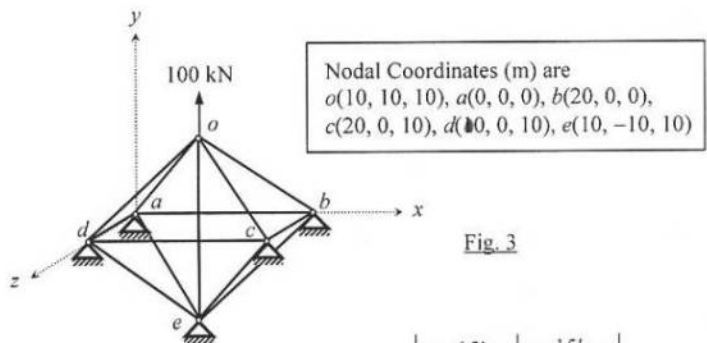

Fig. 3
3. For the frame shown below in *Fig. 3*, calculate joint deflections and rotations considering boundary conditions and neglecting axial deformation [Given, $E = 500 \times 10^3 \text{ ksf}$, $A = 1 \text{ ft}^2$, $I = 0.10 \text{ ft}^4$].
3. Ignore zero-force members to form the stiffness matrix, load vector and write down the boundary conditions of the 3D truss *oabcde* shown in Fig. 3